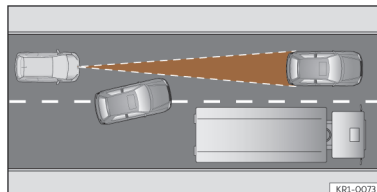

Fig. 138 Vehicle changing lanes.
- Vehicles that move into your lane, a short distance from your vehicle >>> **Fig. 138**.